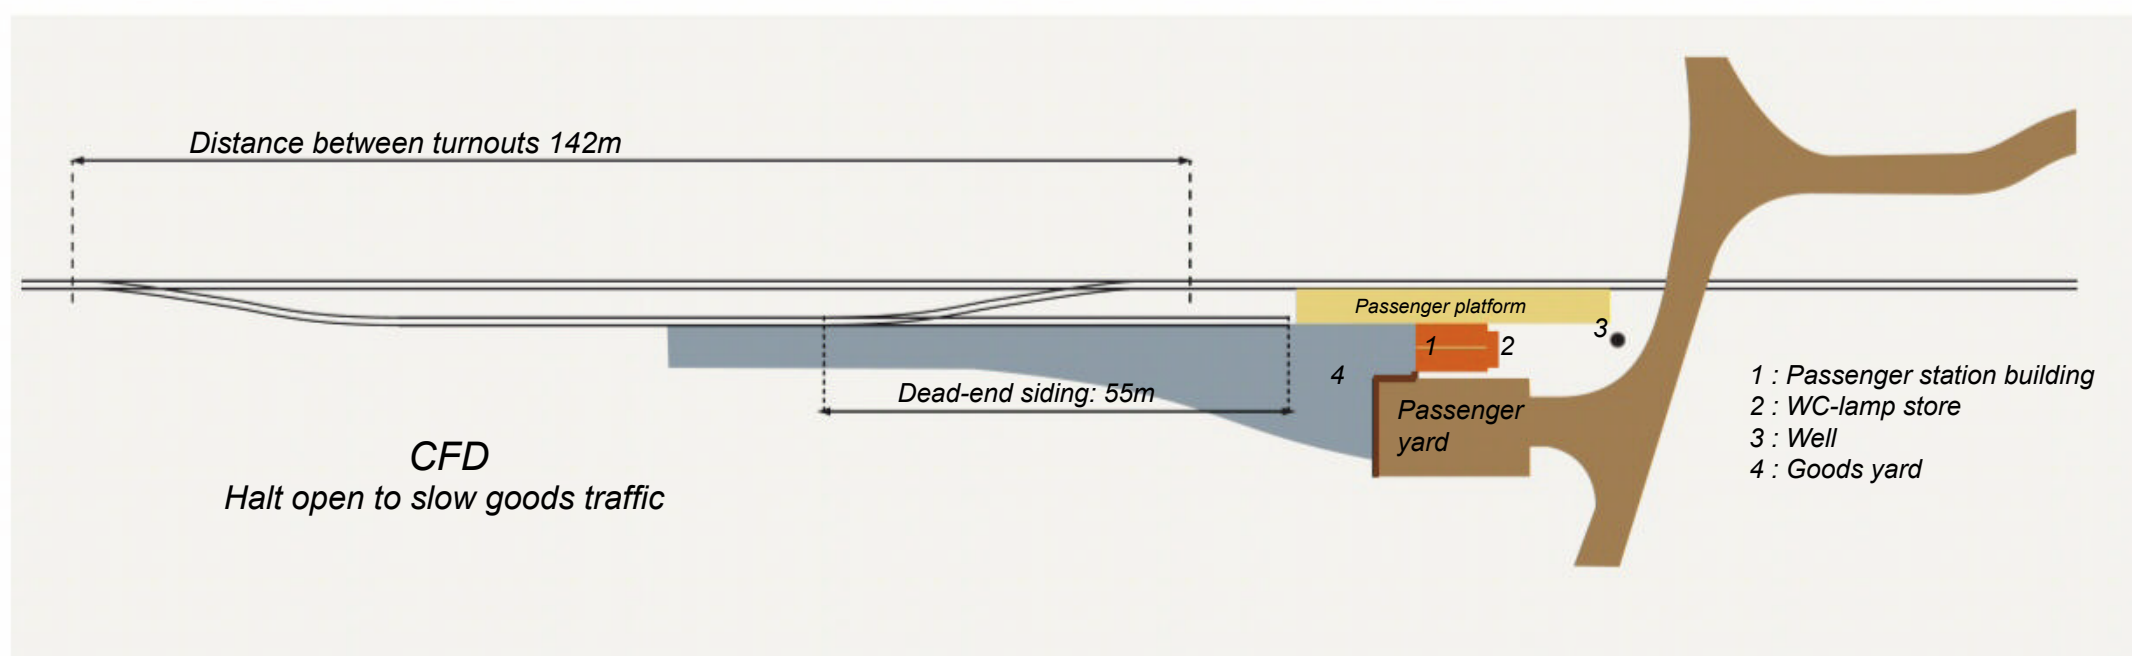

Figure 2.
■ ■ ■ Even shorter, the “halt open for slow goods traffic” (**figure 2**) fits into a length of just 142m, but the loop and the dead-end siding are located before the station building, and the latter has no goods shed, which makes the whole installation somewhat longer. A simple halt (**figure 3**) is just 40m long, the length of the single passenger platform. In all three cases, the station building is located alongside the tracks...